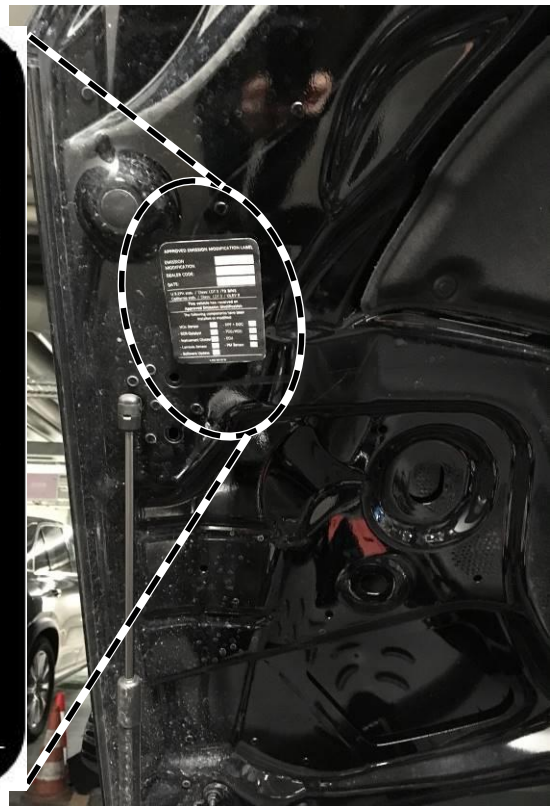

Figure 8
11. Clean the bonding surface of the hood and attach the adhesive label (**Figure 8**).